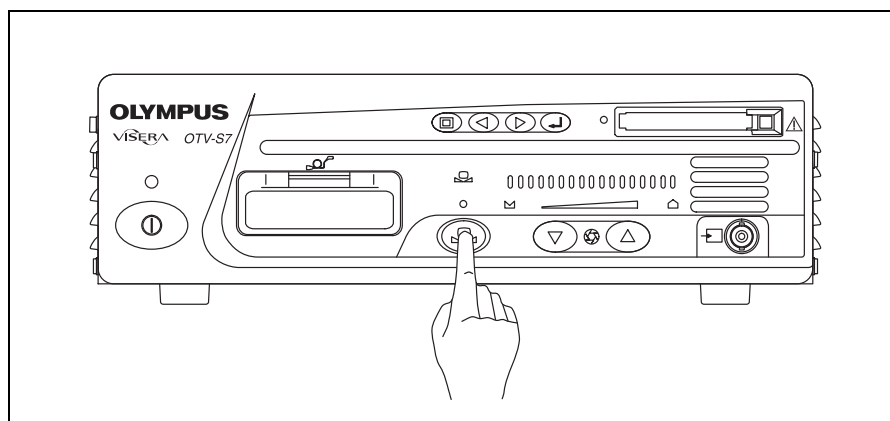

Figure 5.19
1. Point the endoscope at a clean, white surface (gauze, etc.) and press the white balance switch until the white balance indicator lights (see Figure 5.19).